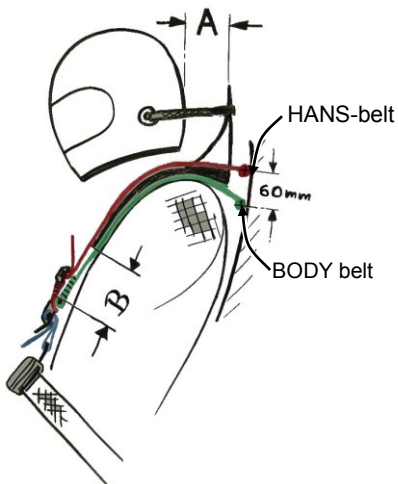

Figure 1
- The total of both numbers (**A** plus **B** in Figure 1) has to be 100 mm.
- Driver's head/helmet must be pulled forward until the tethers are straight. Measure the distance between the Head and Neck Support collar and the helmet = measure **A** in Figure 1.
- Subtract **A** from 100 mm = measure **B** in Figure 1. This is the minimum distance which must be achieved between the Head and Neck Support yoke tips and the belt merge.